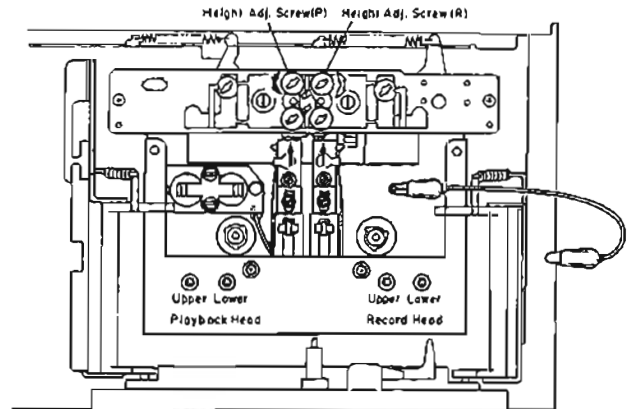
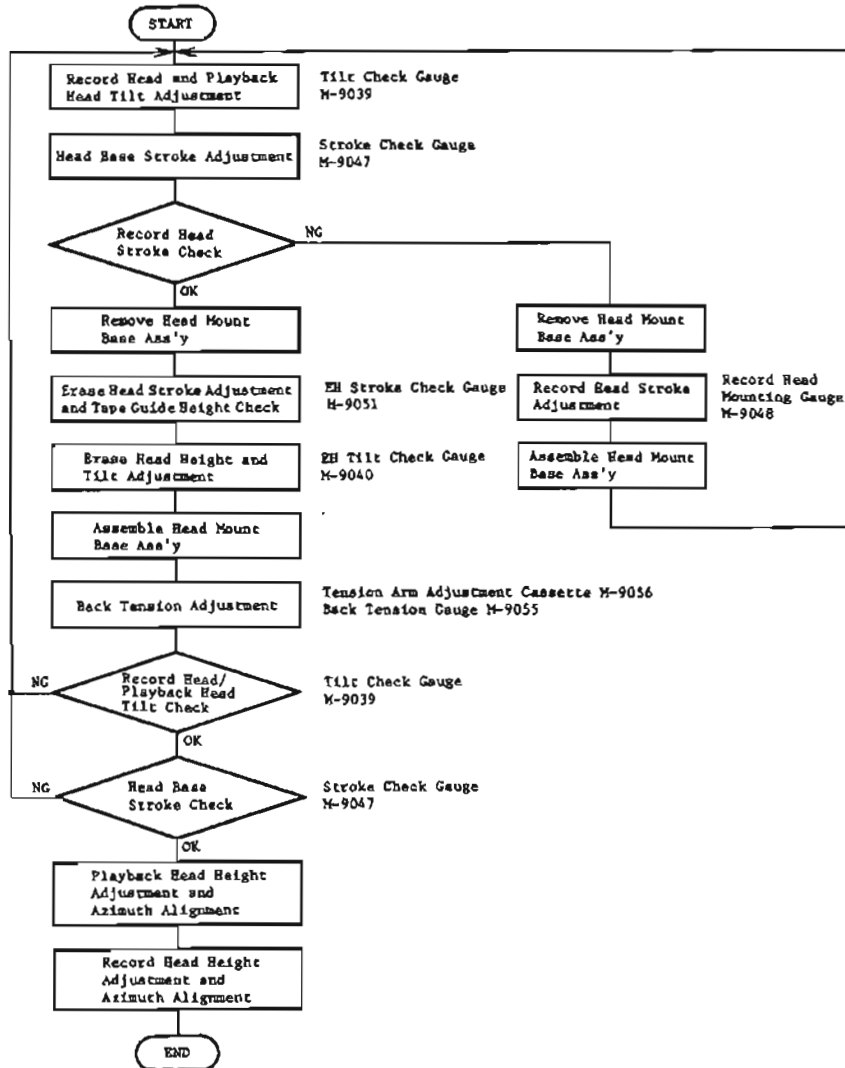

Fig. 2.5
Fig. 2.4
Note: On items 2.4 — 2.10, refer to Fig. 2.4 flow chart. Refer to Figs. 2.5 and 2.6.
- (1) Load a Tilt Check Gauge M-9039 (DA09039B) in the cassette deck.
- (2) Clip the grounding terminal of the Tilt Check Gauge with one end of the cord with clip, and the chassis of the cassette deck with the other end.
- (3) Remove both of the Height Gears.
- (4) Set the cassette deck in Play mode. Check to insure whether the Beacons Playback Head "Upper" or "Lower" and Record Head "Upper" or "Lower" are illuminating. In order not to give damages onto the head surfaces, push both of slide knobs of the Gauge to the direction of arrow marks, then return them to the original place to be in contact with record head and playback head surfaces after Play mode is securely locked.
- (5) Check to insure freedom from contact between the Gauge and pad lifter.
- (6) Beacon Playback Head "Lower" will light on when height adjustment screw (P) turned clockwise but Playback Head "Upper" when counterclockwise. Adjust so that both "Upper" and "Lower" will light on even when you move the slide knob to the direction of an arrow mark and then return it to the original place.
- (7) Same procedures will apply to the Beacons Record Head "Upper" and "Lower", except for the height adjustment screw (R).
- (8) Set the cassette deck in Stop mode and fit both of the serrated Height Gears. Then set the cassette deck again in Play mode and insure all of the 4 Beacons are illuminating. If not, (3) through (7) will have to be repeated till satisfactory results are obtained.